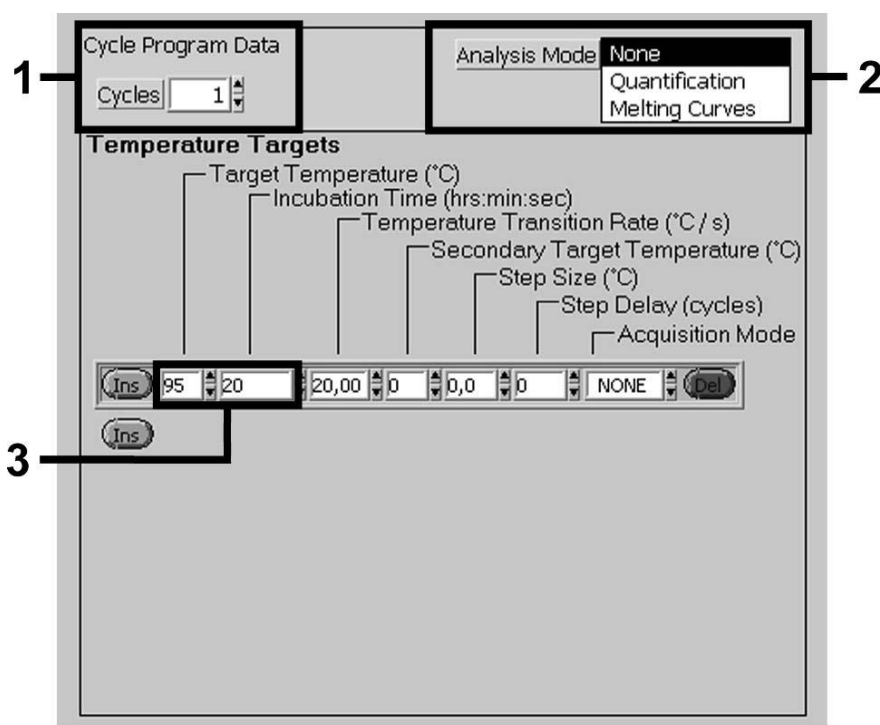

Fig. 3: Initial Activation of the Hot Start Enzyme.
For the detection of *M. tuberculosis* complex DNA, create a temperature profile on your *LightCycler* 1.1/1.2/1.5 Instrument according to the following three steps (see Fig. 3 - 5).
- A. Initial Activation of the Hot Start Enzyme Fig. 3